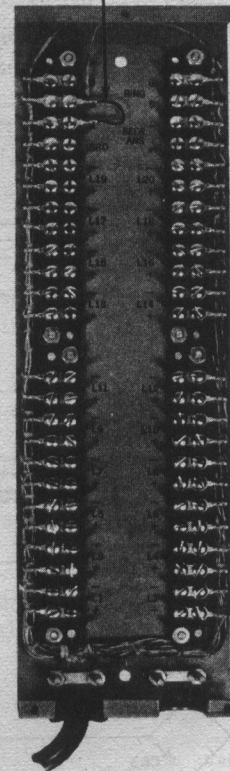

Figure 5. Straight Line Terminal Box (20-Line Unit).
2.11 The straight line terminal box (Figure 5) contains terminal strips to which the